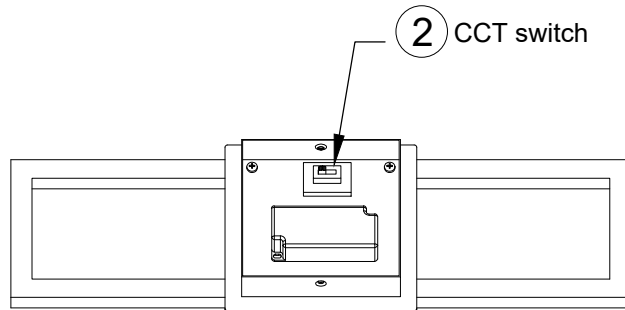

Fig.1
2. Select the appropriate color temperature by turning the CCT switch: 3000K, 3500K, 4000K. **(Fig.1)**